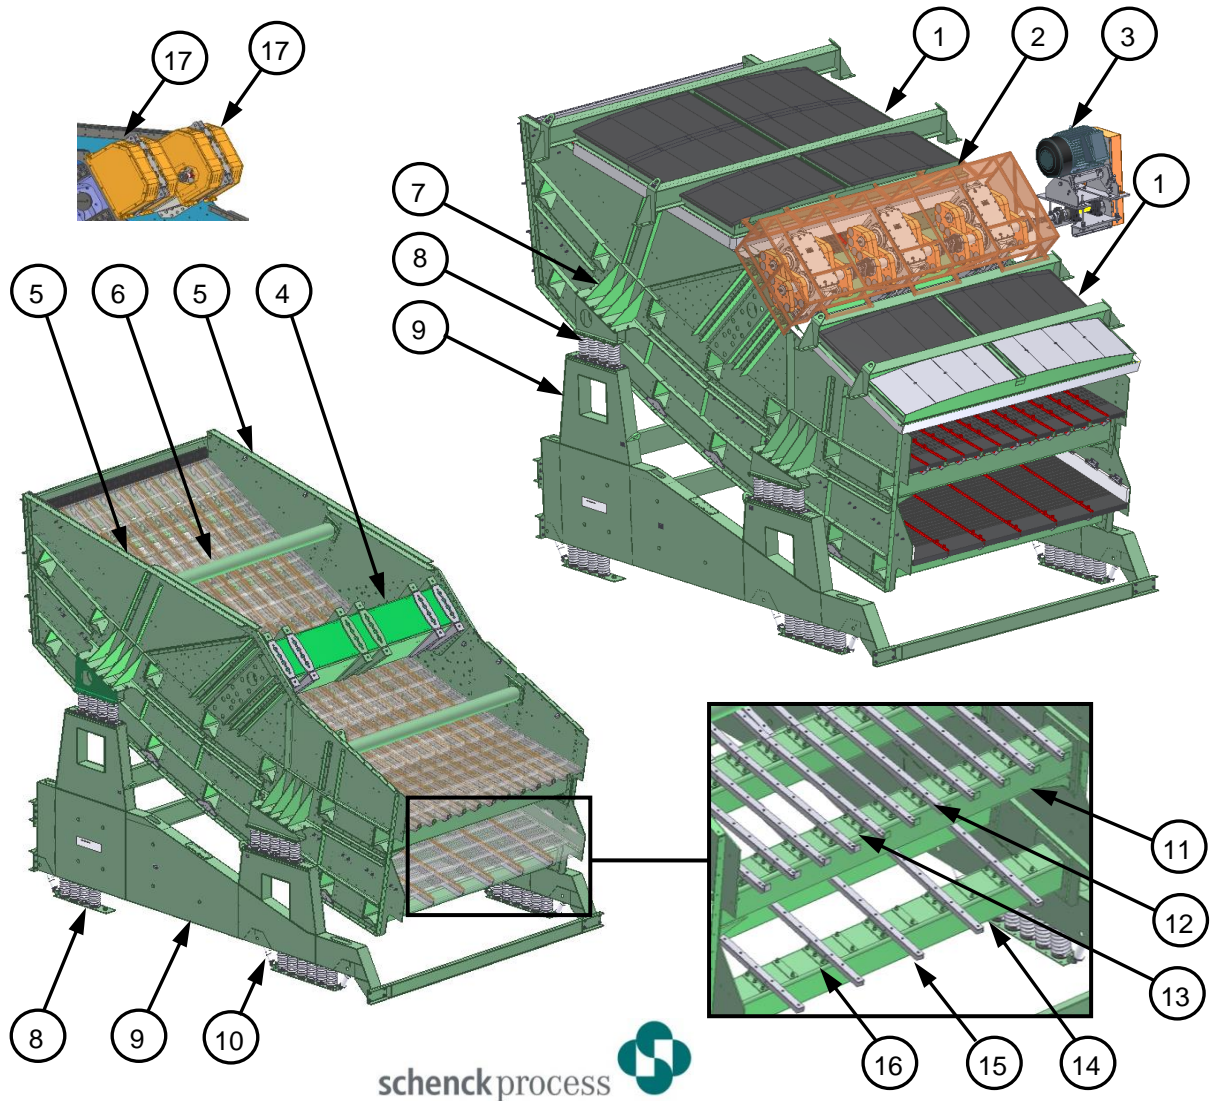

Figure 2.1-1 Main Features of a Double Deck Banana Screen
- 2.1.2 The screen pictured in Figure 2.1-1 is a generic image added for general identification of major components of the vibrating machine.